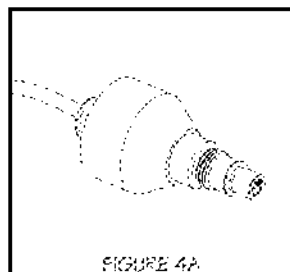

FIGURE 4A
1. Mineral deposits and sediment may accumulate on the sensor window decreasing the UV energy detected. Good maintenance of pre-treatment equipment will reduce the accumulation of residues. If the system indicates that the UV intensity is low, one cause may be a stained quartz sleeve and/or sensor window (Figure 4A). If necessary, remove the sensor assembly and proceed with cleaning process. Repeat the process as often as necessary to keep the sensor window and quartz sleeve clean.